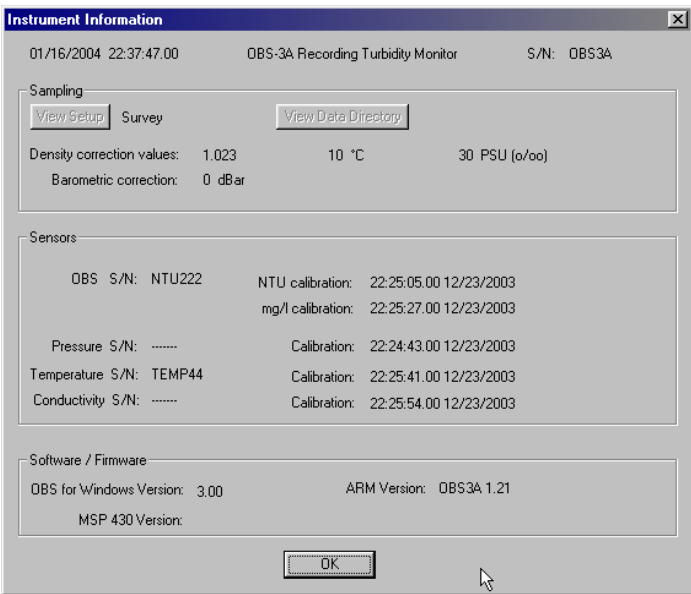

FIGURE 3.5-2. Window for Viewing Instrument Information
6. Click  **OBS-3A Settings** to view time, serial numbers, depth corrections, and software versions (FIGURE 3.5-2).